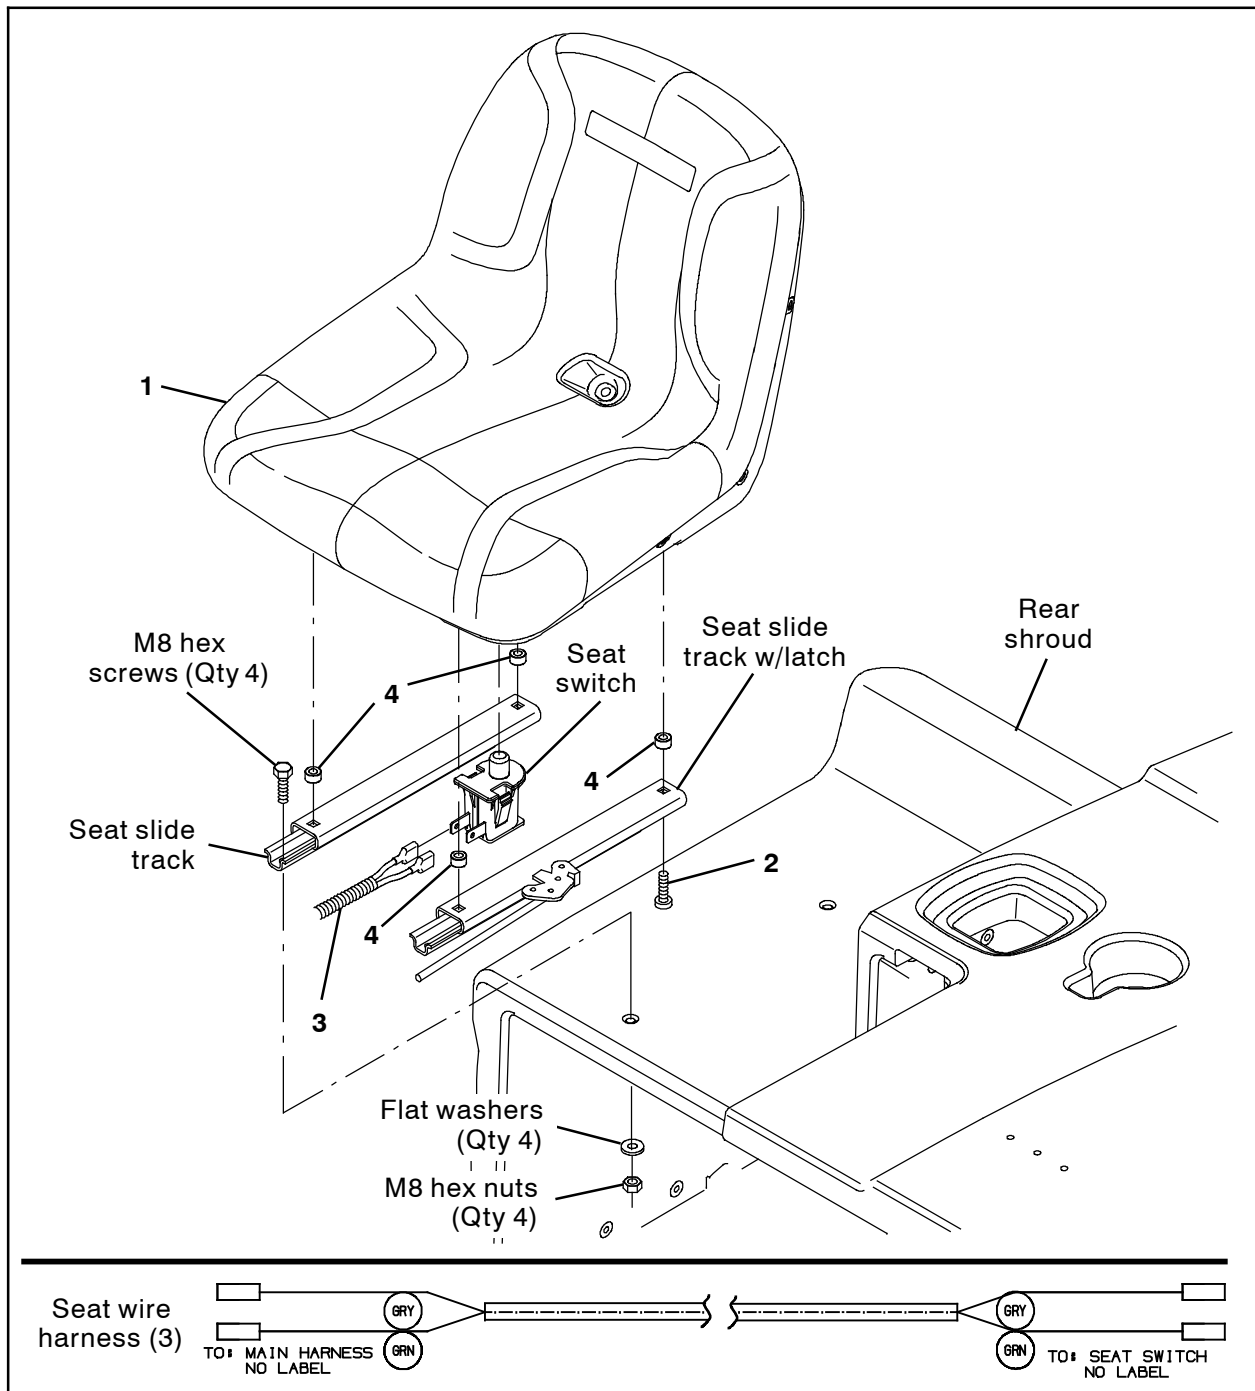

FIG. 2
8. Install the seat switch onto the new operator seat (1). (Fig. 2)
9. Use four Phillips pan screws (2) and four sleeves (4) to install the seat slide tracks onto the operator seat (1). (Fig. 2)